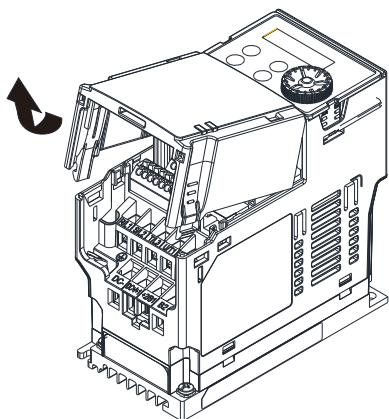

Figure 8-26
1. As shown in the Figure 8-26, shut down the power of the motor drive and then remove the front cover.